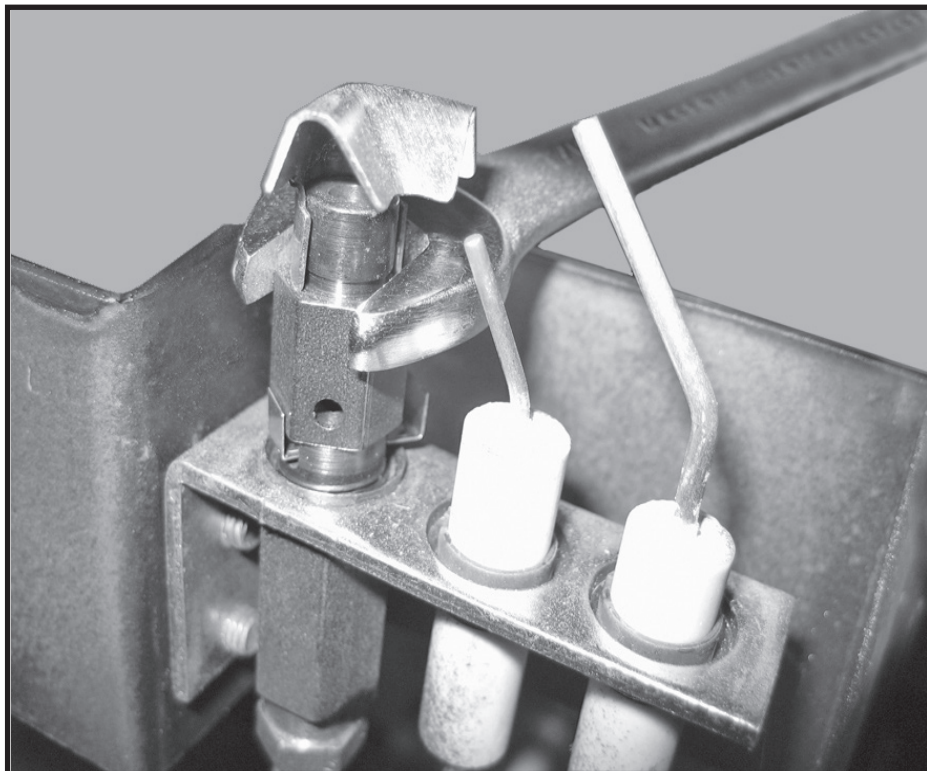

Figure 34: Loosening pilot shield.
11. With a 7/16" wrench, loosen the pilot head on the pilot assembly using a wrench to hold the bracket steady (Figure 34).